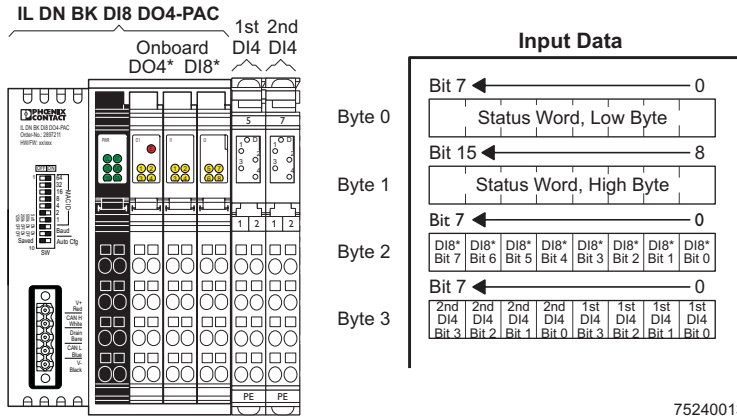

Figure D-2 Example system
Figure D-2 shows the example system that will be discussed. This system has 4 bytes of produced data. 2 bytes for the Inline Status word, 1 byte for the onboard I/Os and 1 byte for the (2) DI4's. By default in this example all bits associated to the produced data will generate a COS scan.
Table D-1 shows the Mask Indexes and Mask Byte Values that would be default for our example system shown in Figure D-2. The Mask Index works like a pointer that can be moved up or down to access the Mask Byte Value data that is located at the specified Mask Index. The following steps need to be taken to program the desired mask values.